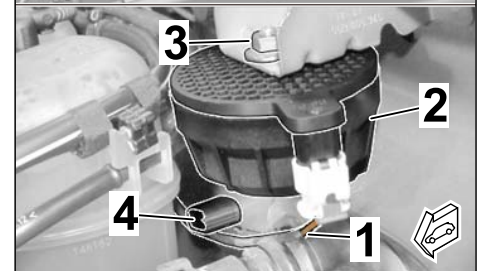

Figure 20
2.3 Fit engine noise pulse sender (\Rightarrow Figure 20)
2.3.1 Route branch with connector (2-pin) to the engine noise pulse sender holder (⇒ *Figure 20-top*).
- 3 (2) – Hexagon nut, M6
- 4 (3) – Cable clip
Secure engine noise pulse sender, facing downwards, in the plenum panel holder using M6 hexagon nut (1 x) (⇒ *Figure 20*)